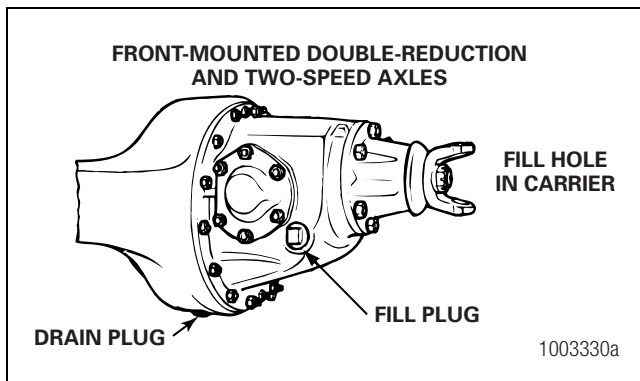

Figure 8.16
2. If the drive pin angle is 7 degrees or less, use the fill plug in the differential carrier. Figure 8.11 and Figure 8.16.